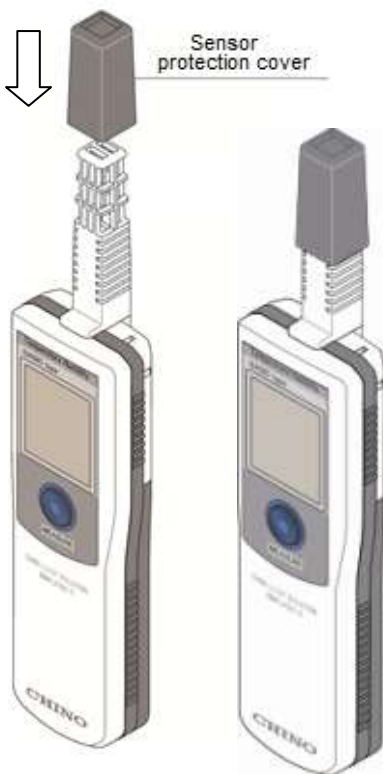

Figure 1
- This sensor is precision and vulnerable to shock. It may be affected by dust to measure. To prevent it, put on the sensor protection cover and store this meter while not in use. (Refer to Figure 1)